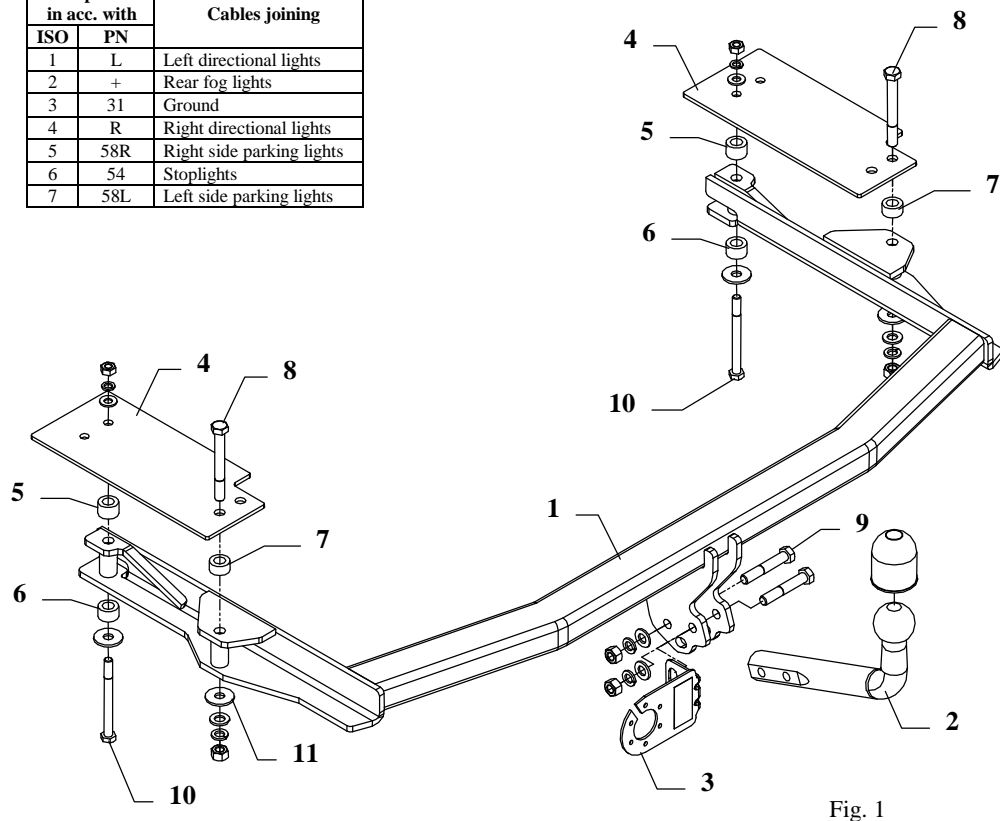

Fig. 1
4. Put main bar of the towbar (pos. 1) in chassis members according to the holes in both elements.
5. In drilled holes $\varnothing 25\text{mm}$ put sleeves as shown on the fig. 1.
6. Place fish-plates (pos. 4) and screw it as shown at the fig. 1.